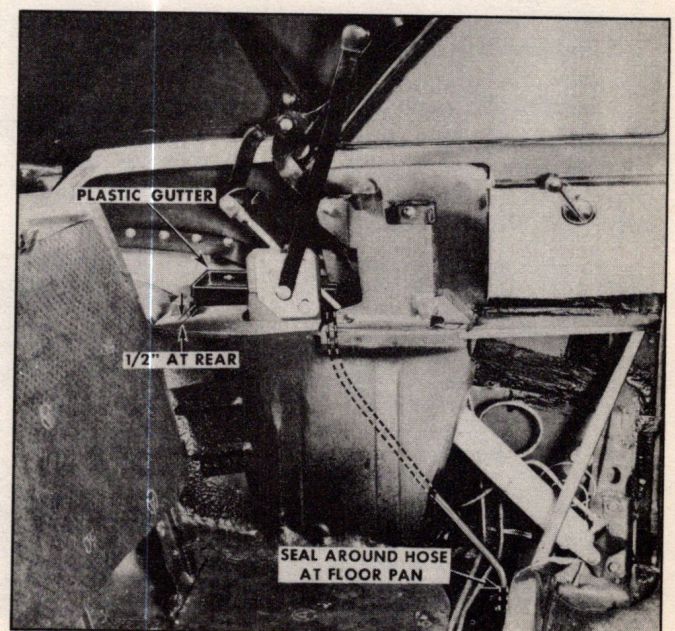

Fig. 11 Plastic Gutter Installed
10. Insert the lower end of the drain hose through the hole in the floor pan at the approximate location as shown in Fig. 11. Seal around the hose from inside the body with 3M Autobody Sealer.